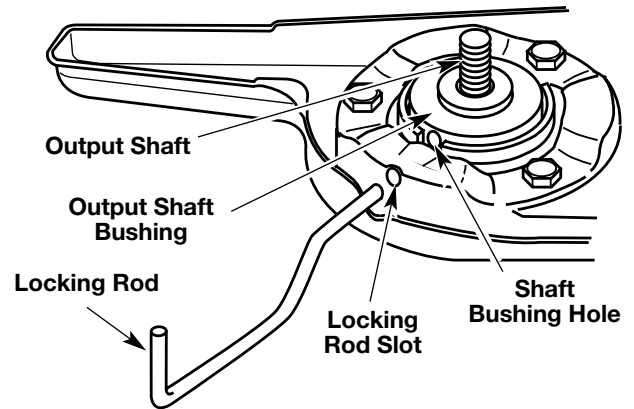
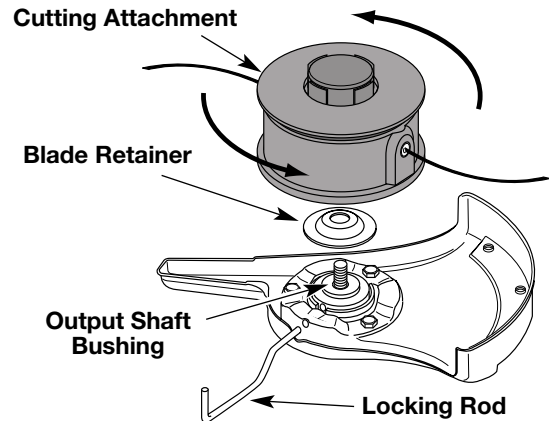

Fig. 8
Fig. 16
1. Align the shaft bushing hole with the locking rod slot and insert the locking rod into the shaft bushing hole (Fig. 8).
- Align the shaft bushing hole with the locking rod slot and insert the locking rod into the bushing hole (Fig. 8).
5. Align the shaft bushing hole with the locking rod slot and insert the locking rod into the shaft bushing hole (Fig. 8, Pg. 10). Place the blade retainer on the output shaft with the flat surface against the output shaft bushing as shown in Fig. 16. Screw the cutting attachment counterclockwise onto the output shaft. Tighten securely.